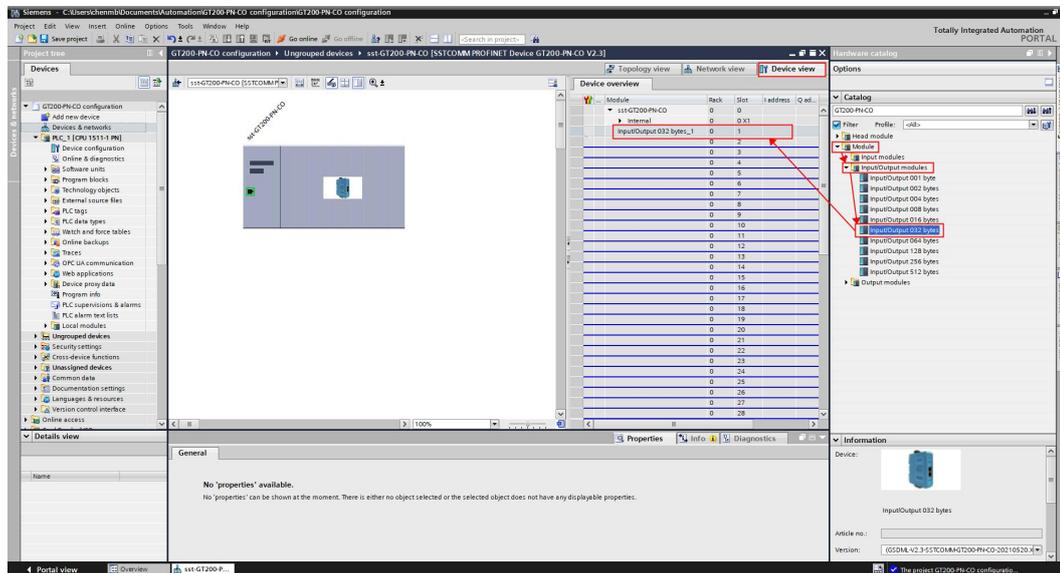

Figure 12: Configure GT200-PN-CO input/output data blocks
3.4 Double-click the GT200-PN-CO device, turn it to "Device View", select the same data block as in Step 3.2 in the "Module" in the directory on the right, and double-click to put it into the slot (the length of the data block and the positions must be the same), as shown in Figure 12.